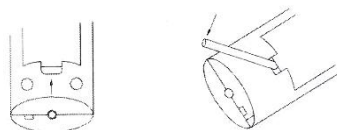

Fig. 8-2 Removing the Battery Cover
**Remove the battery compartment cover** Insert a coin, tweezers or similar flat object in the position indicated by the arrow in the lower left to remove the battery compartment cover, and press down the battery compartment in the arrow direction (Fig. 8-2)